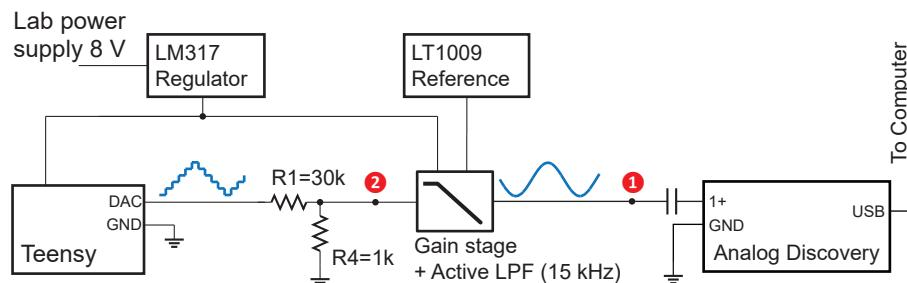

Figure 18: Acquiring signal through Analog Discovery.
1. Set up the system according to Fig. 18.
7. Now use the audio cable to acquire the signal after the gain stage (position 2 in Fig. 18). Record the data and compare it with that from the last step. Explain the difference, if there is any.